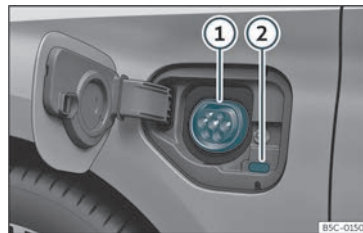

Fig. 202 Behind the battery charging cover on the front left-hand side: Charging socket
>>> Fig. 202
- With the vehicle unlocked, the battery charging cover opens when it is pressed »» **Fig. 202**.